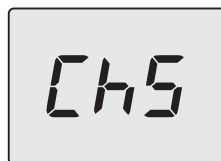

Fig. 10.21
- Scroll through the various menus by pressing the keys 11 (back) or 13 (forward), until **ChS** (Chimney sweep) appears on the LCD display (Fig. 10.21).
- press the 11 and 13 keys simultaneously for 5 seconds (Fig. 10.21) (return to previous level).